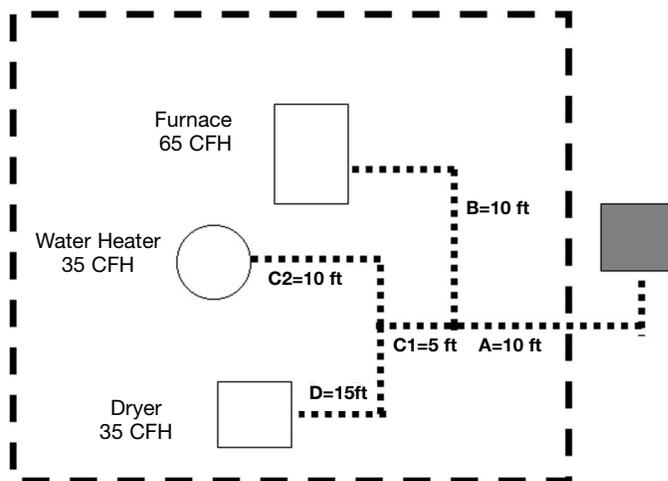

Figure: 3-8
- The system presented in Figure: 3-8 is similar to that in 3-1, a single-family instal-